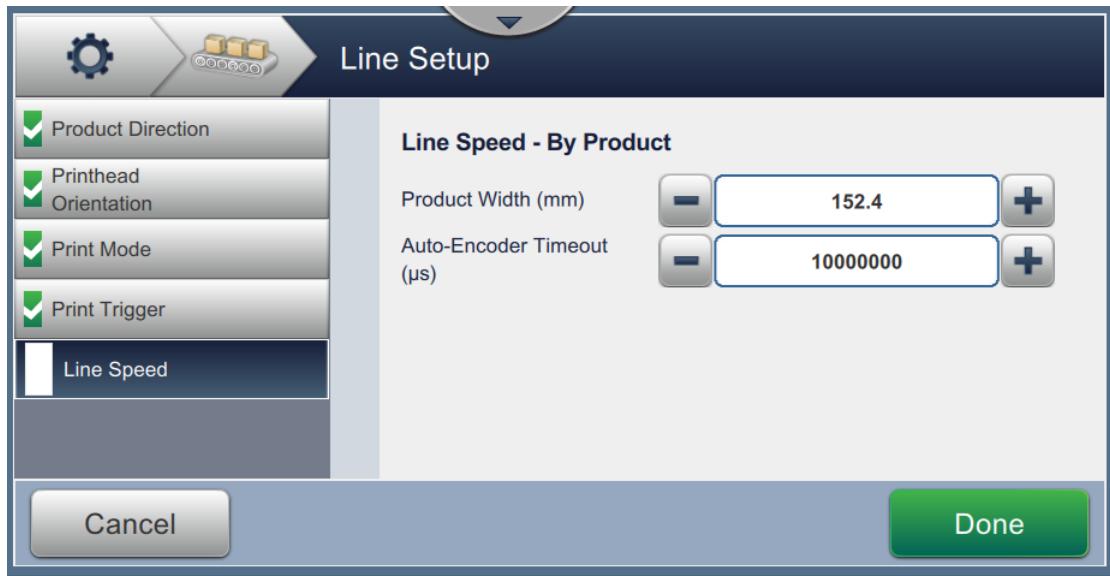

Figure 6-37: Line Speed - Measured by Product Size/Time Settings
2. Change the required parameters on the Settings screen as shown in Figure 6-37.